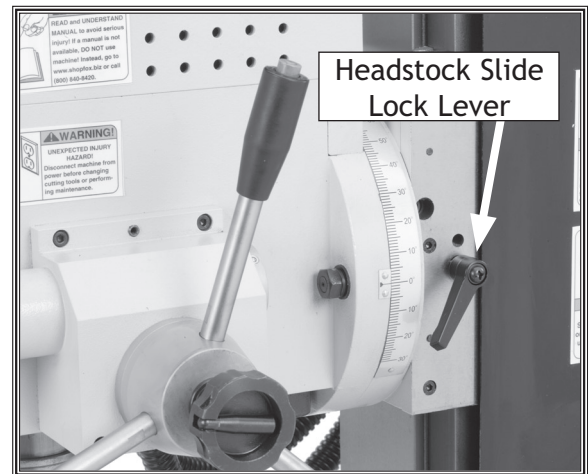

Figure 12. Headstock slide controls.
1. Unlock the headstock slide lock lever shown in **Figure 12**.